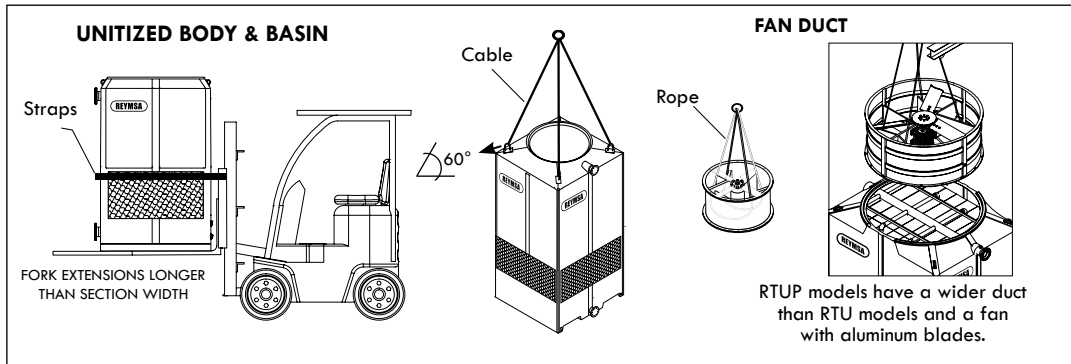

Figure A-34: Single Fan Tower fork and crane lifting
- B. After verifying the equipment is received in proper condition, proceed to unload it piece by piece, with a crane or forklift of the appropriate capacity (see Figure A-34 for reference). If you unload with a forklift, use fork extensions of the proper pallet length according to the width of your model.
- D. For crane lifting, it's recommended to use a minimum lifting angle of 60° between the strap and the horizontal. The Tower has U-bolts for lifting, one on each corner. Place the straps through the u-bolts (as shown in Figure A-34) and use a spreader bar to avoid damage on the upper edge of the Tower. Don't balance until tensing the straps.